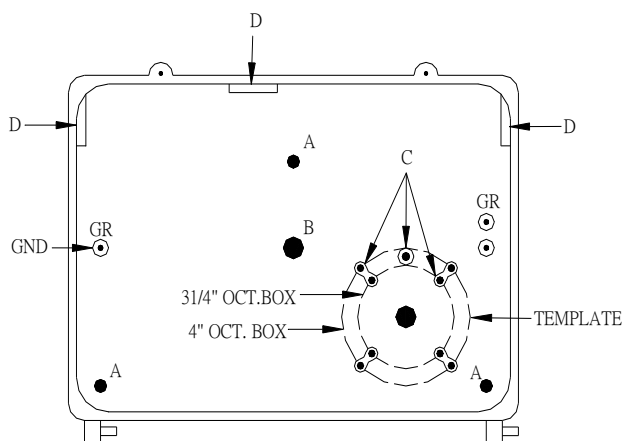

FIG. 2
2. Prepare the back plate for mounting by drilling or knocking out the appropriate holes. (See Fig. 2).